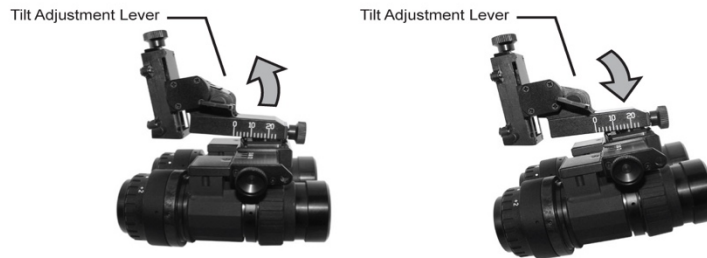

Figure 2-8. Tilt Lever
4. Move the tilt lever (see Figure 2-8) up or down to obtain the optimum line-of-sight view. If the upper or lower edges of the image areas are blurred, adjust both the vertical adjustment knob and the tilt lever until the blurred edge is removed and an optimal line of sight is achieved.